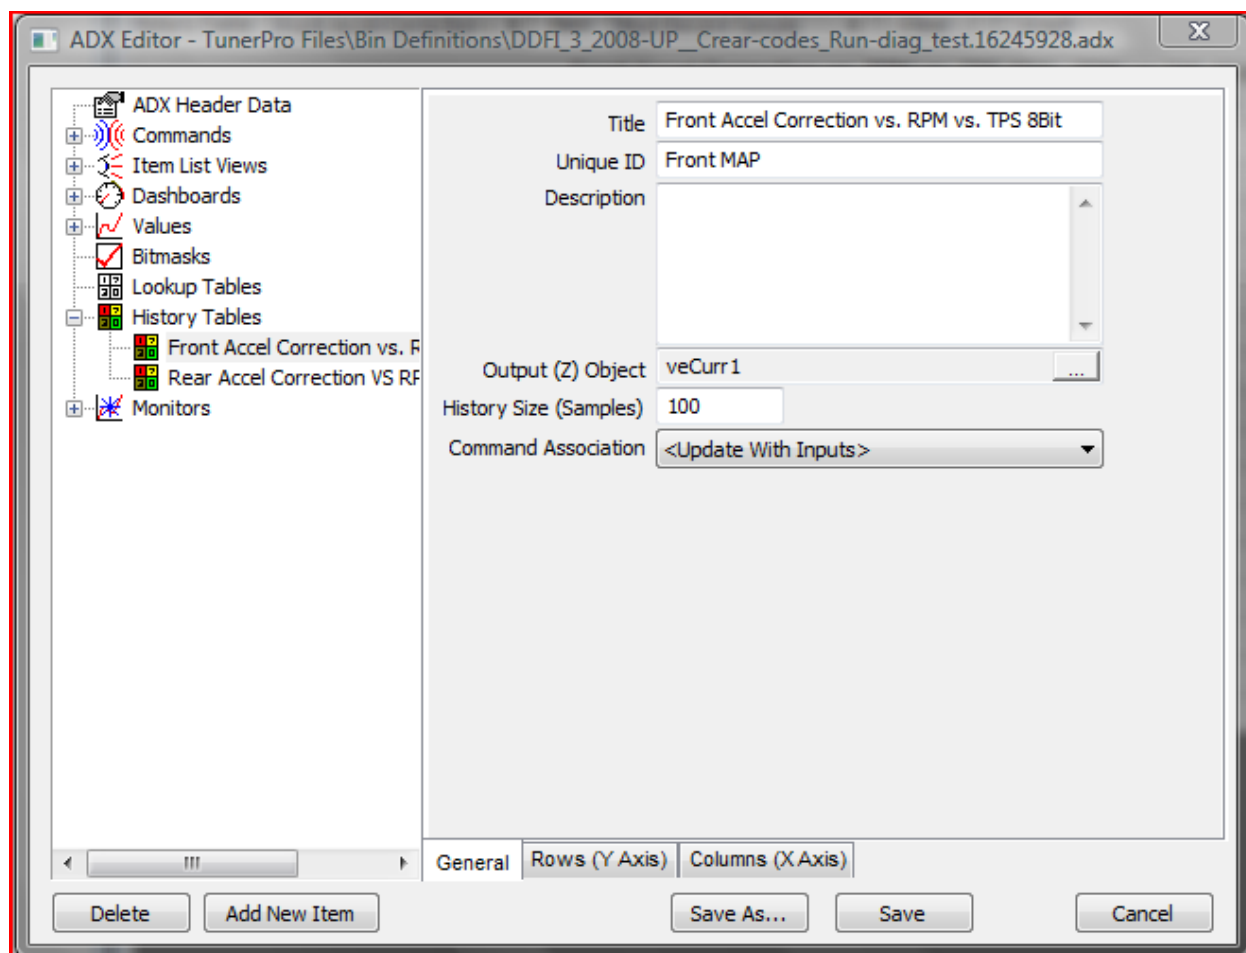

Figure 12: Edit Definition File History Tables
6. Select “Front Accel Correction vs. RPM vs. TPS” from the sub-category menu on the left-hand side. The window will change to a screen like in Figure 12 below: